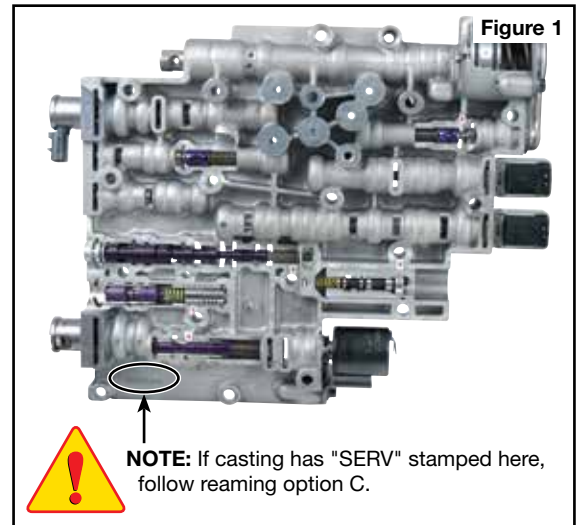

Figure 1
c. Isolator valve was .473" dia. – GM Service valve body (Figure 1):